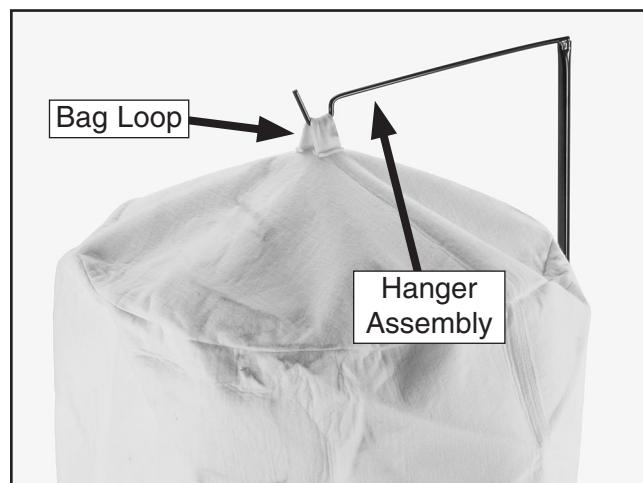

Figure 13. Upper filter bag mounted on hanger assembly.
23. Place the loop at the top of the upper collection bag over the top hook of the hanger assembly (see **Figure 13**).